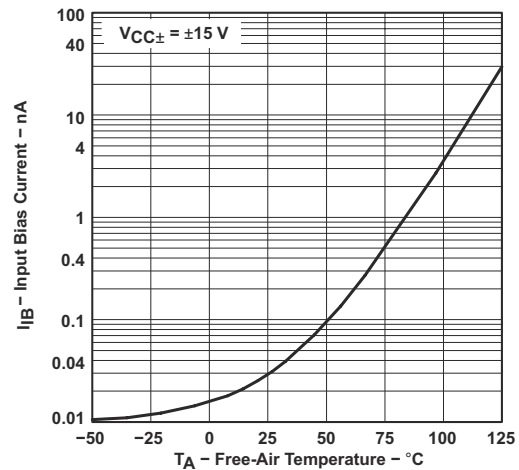

图 6-12. Input Bias Current vs Free-Air Temperature
- (1) All characteristics are measured under open-loop conditions with zero common-mode input voltage unless otherwise specified. Full range for T_A is 0°C to 70°C for TL06xC, TL06xAC, and TL06xBC and -40°C to 85°C for TL06xI.
- (2) Input bias currents of an FET-input operational amplifier are normal junction reverse currents, which are temperature sensitive, as shown in Fig 6-12. Pulse techniques are used to maintain the junction temperature as close to the ambient temperature as possible.
- (3) Specified by design and characterization; not production tested.
- (1) All characteristics are measured under open-loop conditions with zero common-mode input voltage, unless otherwise specified. Full range for T_A is 0°C to 70°C for TL06xC, TL06xAC, and TL06xBC and -40°C to 85°C for TL06xl.
- (3) Assured by design and characterization; not production tested.
- (1) This parameter is not production tested.
- (2) All characteristics are measured under open-loop conditions, with zero common-mode voltage, unless otherwise specified.
- (3) Input bias currents of an FET-input operational amplifier are normal junction reverse currents, which are temperature sensitive, as shown in Fig 6-12. Pulse techniques are used to maintain the junction temperature as close to the ambient temperature as possible.
- (4) Specified by design and characterization; not production tested.